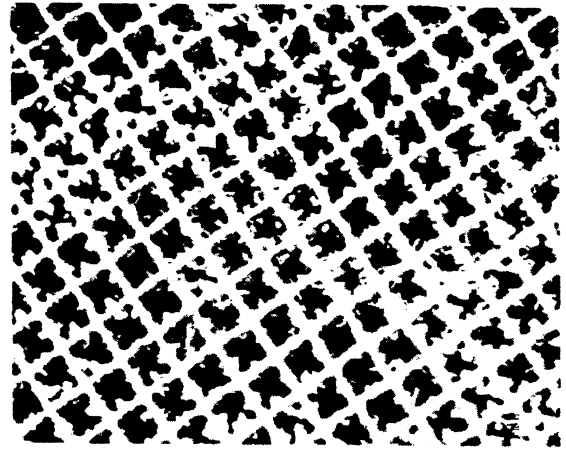

Figure 24
•**Peeling (Figure 24)** Temperatures above 1,800 degrees F. and prolonged flame impingement can cause the catalyst coating to peel of the ceramic substrate. If the peeling is severe, the catalyst should